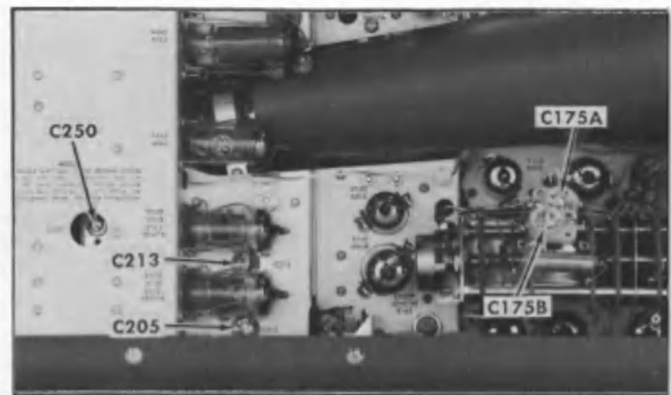

Fig. 5-18. Location of high-frequency adjustments (left side).
g. ADJUST—C205 (see Fig. 5-18) to move the first marker to the center vertical line (use low-capacitance screwdriver).
l. ADJUST—C213 (see Fig. 5-18) to move the first marker to the center vertical line (use low-capacitance screwdriver).
c. ADJUST—C175B (see Fig. 5-18) for one marker each division (use low capacitance screwdriver). The second and tenth markers must coincide exactly with their respective graticule lines (reposition the display with the HORIZONTAL POSITION control if necessary).
d. ADJUST—C175A (see Fig. 5-18) for one marker each division (use low-capacitance screwdriver). The markers at the second and tenth vertical lines must coincide exactly with their respective graticule lines (reposition the display with the HORIZONTAL POSITION control if necessary).
f. ADJUST—C250 (see Fig. 5-18) for one marker each division (use low-capacitance screwdriver). The markers at the second and tenth vertical lines must coincide exactly with their respective graticule lines (reposition the display with the HORIZONTAL POSITION control if necessary).